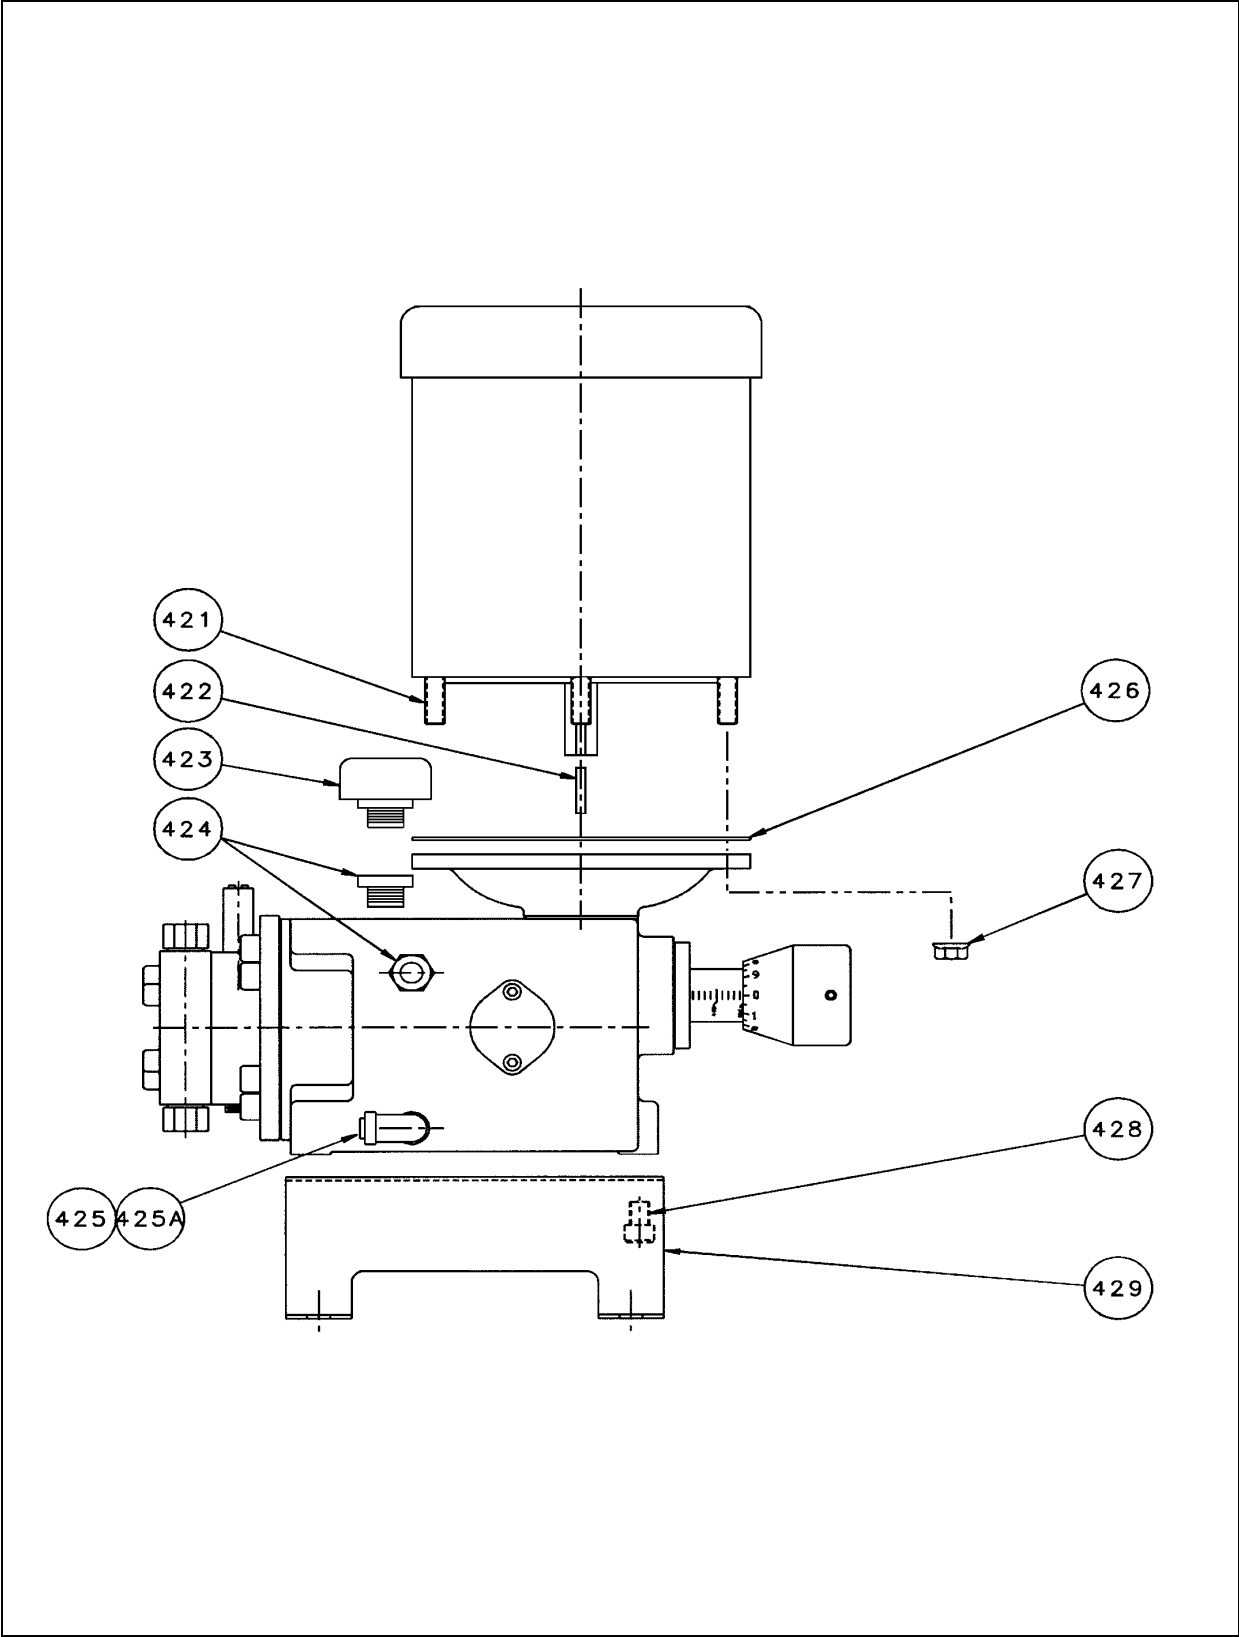

Figure 41. Miscellaneous.
6.22 MISCELLANEOUS (316SS, ALLOY 20, HAST C, PVC, & KYNAR) (FIGURE 41)